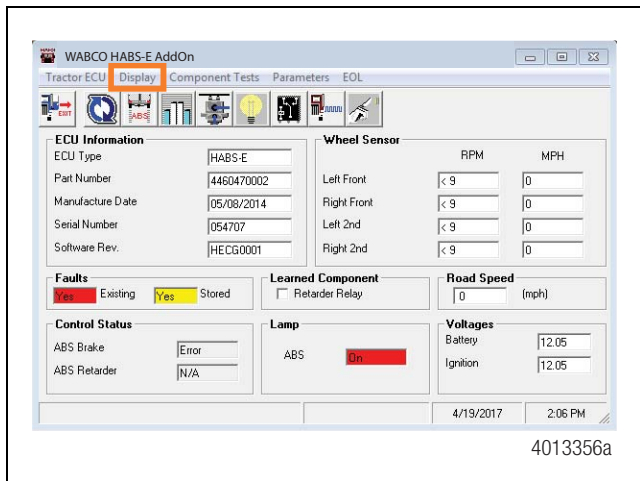

Figure 3.8
- In the HABS-E window, click on **Display** on the top menu. Figure 3.8.